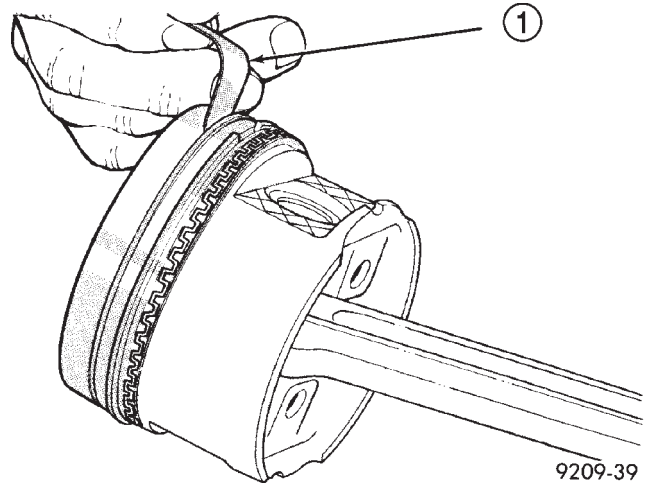

Fig. 6 Piston Ring Side Clearance
(2) Check piston ring to groove side clearance (Fig. 6). Refer to Engine Specifications in this section for piston ring specifications.